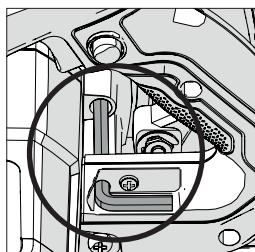

Fig. 1
- Locate the supplied Blade Change Hex Key which is housed in the onboard storage facility (similarly position on all machines). (**Fig. 1**)